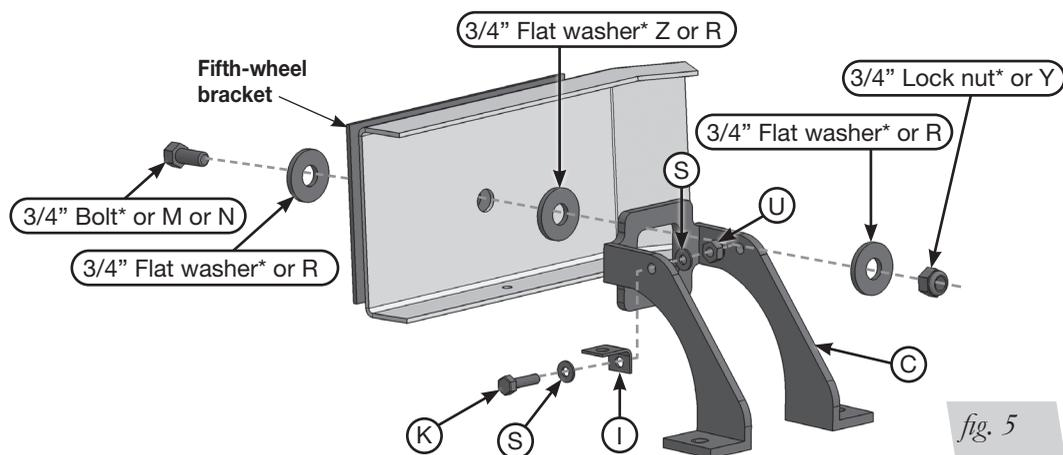

fig. 5
Set the upper frame brace (C) against the driver's side of the frame (Fig. 5). Once the following procedure has been completed for the driver side, repeat for the passenger's side.
If the truck has no fifth-wheel hitch or a hitch that does not have a plate running alongside the full length of the frame (these will have an "L" bracket forward and behind the axle, leaving the middle frame open) use the 1/2"-13 x 2" hex-head cap screw (M) with a flat washer (R) through the slot in the side of the frame, then through another flat washer (R) and finally through the upper frame brace. Cap with a flat washer (R) and a 1/2"-13 nylon lock nut (Y) (Fig. 5). Leave loose at this time.
If the truck has an aftermarket fifth-wheel hitch that has a bracket (plate) running alongside of the frame and it uses this slot to secure the bracket to the frame with existing hardware, install the existing hardware previously removed in the "Getting Started Section" from the fifth-wheel installation for securing the brace (Fig. 5). Make sure to install the large 3/4" flat washer (Z) between the brace and frame (Fig. 5). Do not tighten at this time.
Insert a 1/2"-13 x 3" hex-head cap screw (N) with a 1/2" thick flat washer (R) through the fifth-wheel plate previously drilled, the frame, then through another 1/2" flat washer (R) and finally the upper frame brace. Cap with a 1/2" thick flat washer (R) and a 1/2"-13 nylon lock nut (Y) (Fig. 5). Leave loose at this time.
9. If the truck is equipped with the emissions line previously removed, attach the L-bracket (I) to the back or front leg of the frame brace using the 1/4"-20 x 1" hex-head cap screw (K), flat washers (S) and 1/4"-20 nylon lock nut (U) supplied (Figs. 5 & 20).